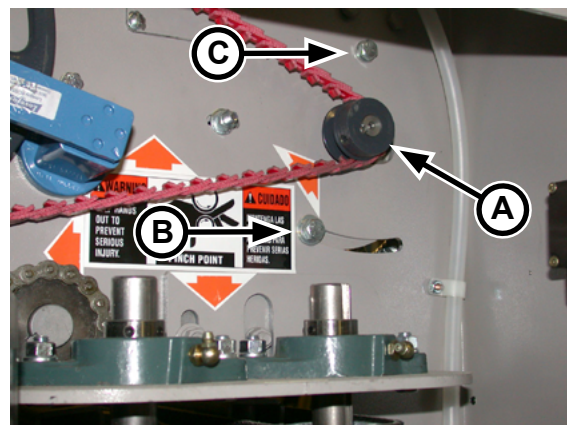

Figure 7-15: Discharge drive belt in the upper left endframe.
- a) Locate the delivery drive motor mounting bolt (Figure 7-15, A) and loosen it.
- b) Locate the adjustment bolt in the slotted hole and loosen it (Figure 7-15, B).